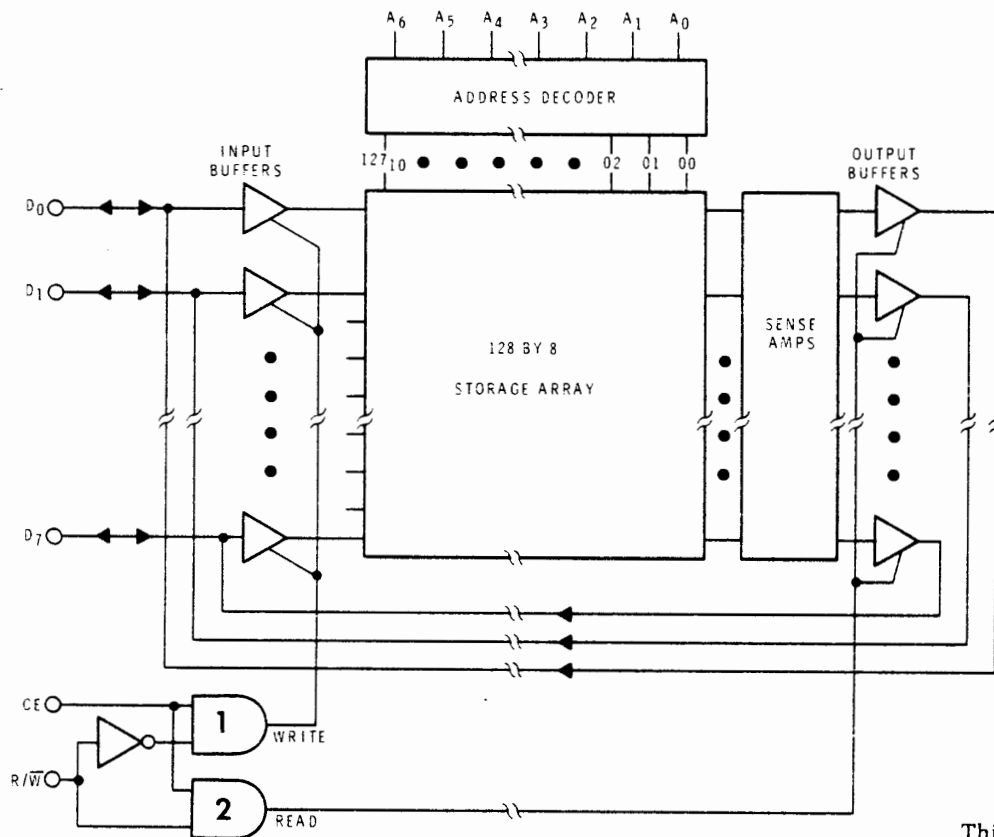

Figure 7-14
Figure 7-14 shows a simplified arrangement. The data lines are shown on the left. The 3-state input buffers are enabled by a high signal on the WRITE line. This line is controlled by the R/\overline{W} signal and the chip enable (CE) signal. As you will see, the WRITE line is high when the MPU is writing data into memory. This enables the input buffers and allows data to be written into the selected address. The output buffers are disabled during this period by the low signal on the READ line.
As Figure 7-14 illustrates, the READ and WRITE signals are controlled by the chip enable (CE) signal and the R/\overline{W} line. The CE input line is switched high when this particular memory chip is selected. If this line is low, gates 1 and 2 are disabled. This causes both the READ and WRITE signals to go low, disabling both the input and output buffers. In effect, it disconnects this chip from the data bus.
22. Refer to Figure 7-14. What is the state of the input and output buffers if CE is low?
23. When CE is high and R/\overline{W} is low, the circuit shown in Figure 7-14 is in the _____ state.